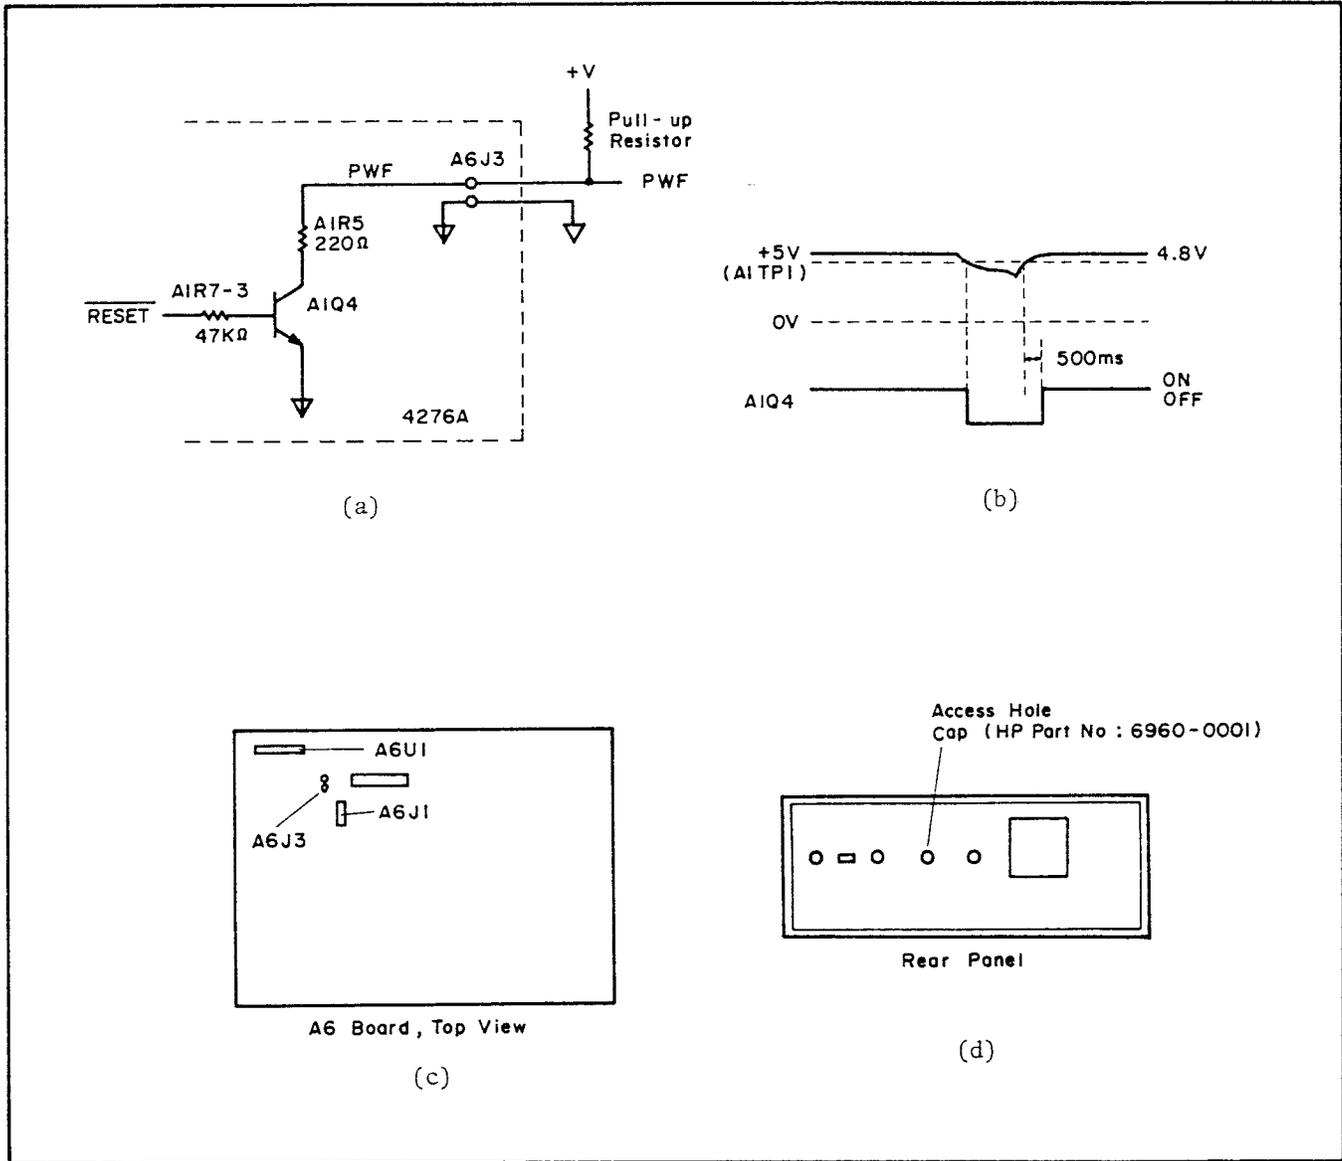

Figure 2-6. Power Failure Monitor Installation.
2-32. To use the power failure monitor signal, you must solder two wires to a jumper on the mother board, remove a cap from a hole on the rear panel, and bring the wires out through the hole. The procedure is given below. A simplified drawing of the open collector circuit, a timing diagram, and the locations of the jumper and hole are shown in Figure 2-6. Refer to paragraph 3-114 for a description of the power failure monitor signal.
7. Solder a wire to each terminal of A6J3. The location of A6J3 is shown in Figure 2-6 (c).
8. Remove the cap from the access hole in the rear panel, as shown in Figure 2-6 (d).
11. Connect the pull-up resistor and external voltage source as shown in Figure 2-6 (a).